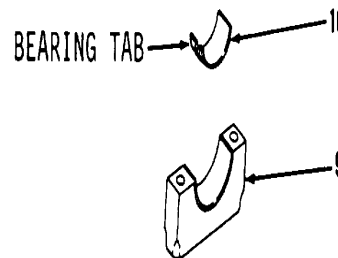

Figure 13-25.
2. Remove lower half of two intermediate main bearings (10) from two crankshaft bearing caps (9, Figure 13-25).